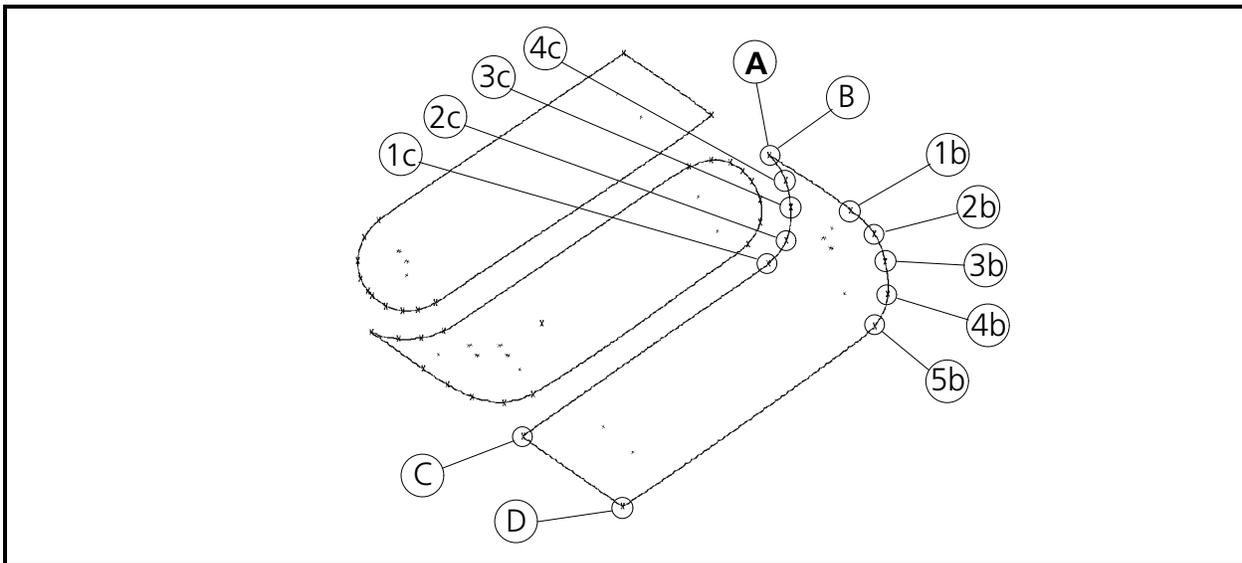

Figure 6-80
3. When you have completed the fill stitching with a Mk3 at point A, perform a lock stitch at D in Figure 6-80.